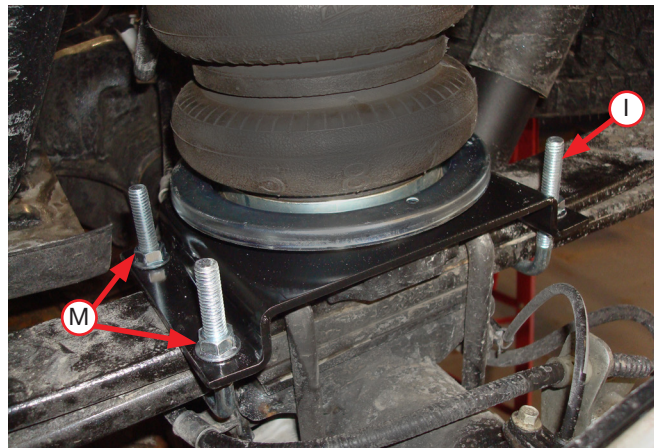

Fig. 12
2. With the suspension dropped, as instructed in step 1 of "Preparing the Vehicle," set the air spring assemblies onto the leaf springs, making sure the fittings and flanges are pointing inboard (Fig. 12). Insert the U-bolts into the front side of the lower brackets while placing the assemblies into position. Insert the back-side U-bolts through the lower brackets and install the 3/8" serrated flange lock nuts (M) onto the U-bolts finger-tight only.